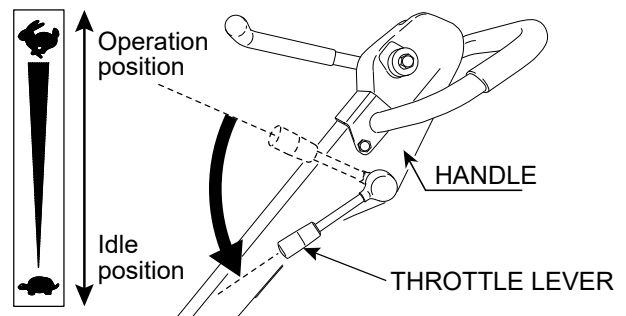

Figure 18. Throttle Lever (Idle Position)
4. If you want to suspend work, return the throttle lever to the idle position quickly (Figure 18).